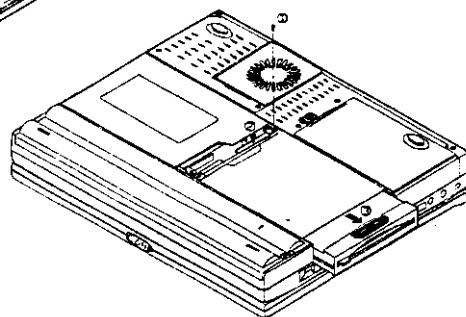

Figure 2-14
6. Push the latch in the indicated direction and pull the floppy disk drive module out of the tray (Figure 2-14).